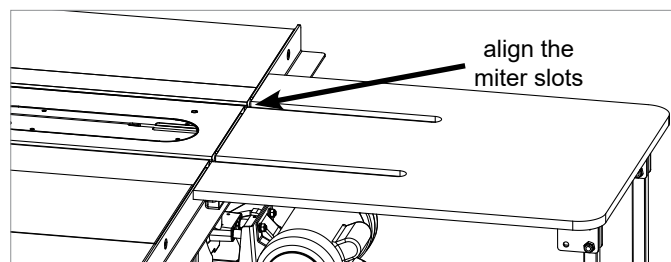

Fig. 4
4. Set the out-feed table mounting bracket on the top surface of the rear rail so that the two miter slots in the top of the out-feed table align with the miter slots in the saw table (see Fig. 4).